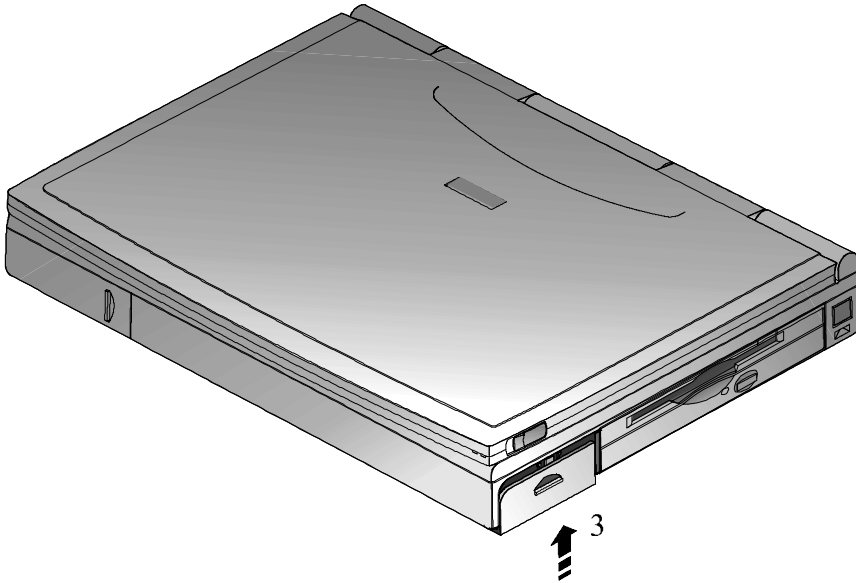

Figure 2-3: Installing the Main Battery (step 2)
3. Slide the main battery lock/release clip upward to its locked position (Figure 2-3, step 3).